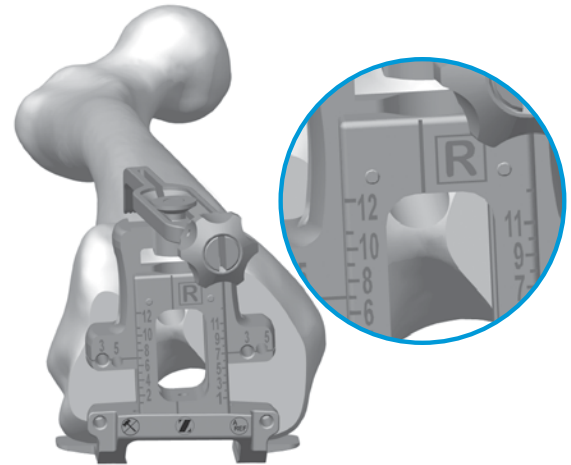

Fig. 37
- If the 3° external rotation holes are to be used to set external rotation, the etched line on the sizer should be positioned so it is in line with Whiteside’s line (Fig. 37) to optimize the M/L position of the drill holes for subsequent 4-in-1 Cut Guide placement. If the 5° external rotation holes are to be used, the sizer can be positioned with the etched line on the sizer 4mm laterally from Whiteside’s line to better center the drill holes for subsequent 4-in-1 cut guide placement, due to the M/L offset of the holes. Hold the guide in place and if necessary, secure the sizer to the femur using 25mm x 3.2mm (2.5mm female hex) screws (Fig. 38) in one or both of the holes on the lower portion of the guide to help draw the sizer adjacent to the distal femur, particularly in MIS situations.